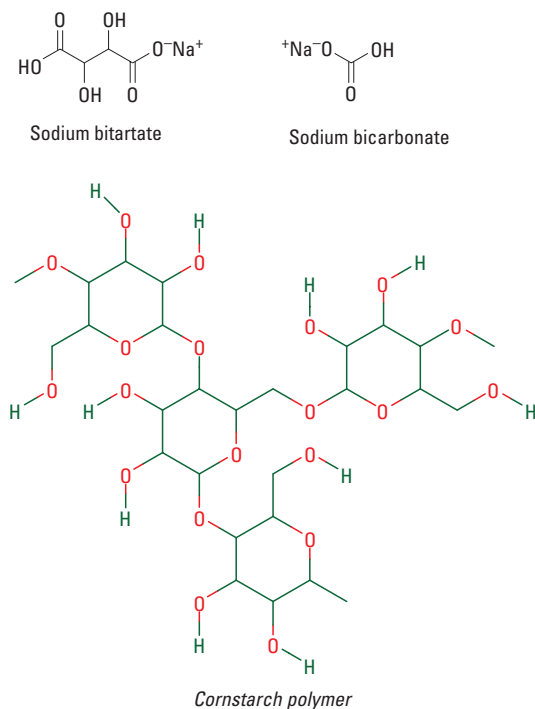

Figure 1. Components of baking powder
- In your kitchen there is a mixture that is usually listed as a single ingredient in recipes: baking powder. Baking powder is actually a mixture of sodium bicarbonate, cream of tartar (sodium bitartrate), and cornstarch (see Figure 1). Looking at the three molecules in Figure 1, how are they similar and how are they different? Draw a picture of how each molecule would interact with a bunch of water molecules